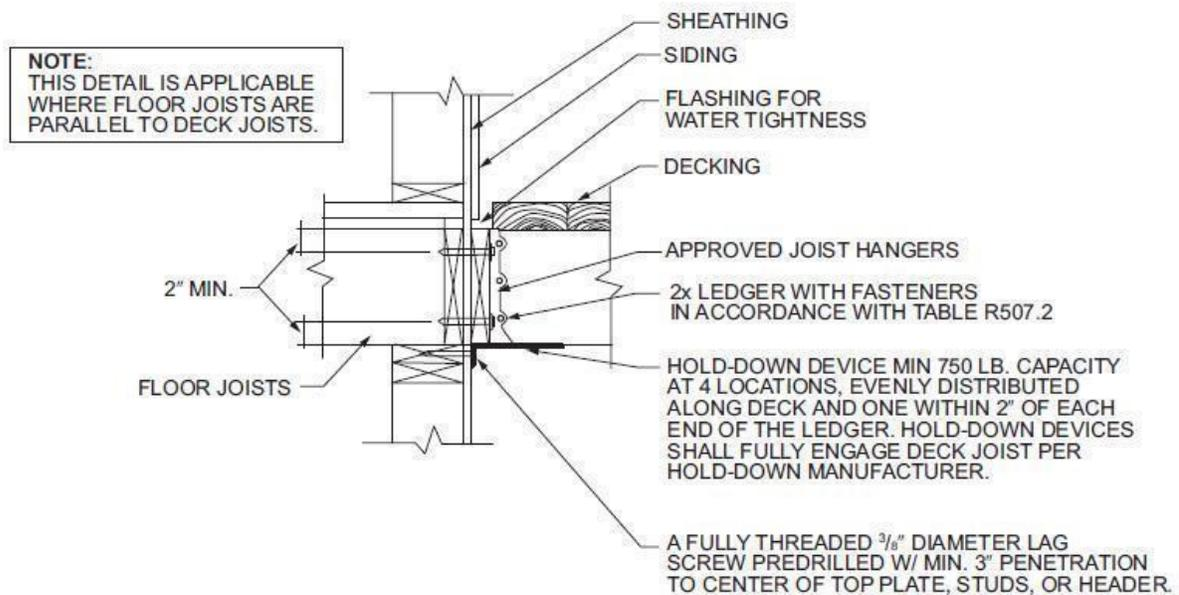

FIGURE R507.2.3(2)
The lateral load connection required by Section R507.1 shall be permitted to be in accordance with Figure R507.2.3(1) or R507.2.3(2). Where the lateral load connection is provided in accordance with Figure R507.2.3(1), hold-down tension devices shall be installed in not less than two locations per deck, within 24 inches of each end of the deck. Each device shall have an allowable stress design capacity of not less than 1,500 pounds. Where the lateral load connections are provided in accordance with Figure R507.2.3(2), the hold-down tension devices shall be installed in not less than four locations per deck, and each device shall have an allowable stress design capacity of not less than 750 pounds.